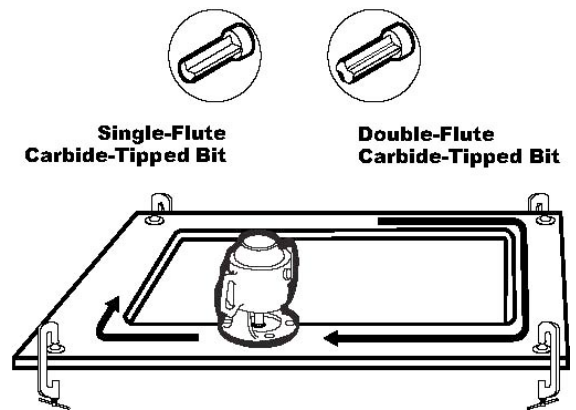

Figure C-3
- Make the cutout using a 2-hp to 3-hp router with a 1" (25 mm) template guide and a $\frac{3}{8}$ " (10 mm) carbide-tipped, single-flute router bit (Figure C-3).